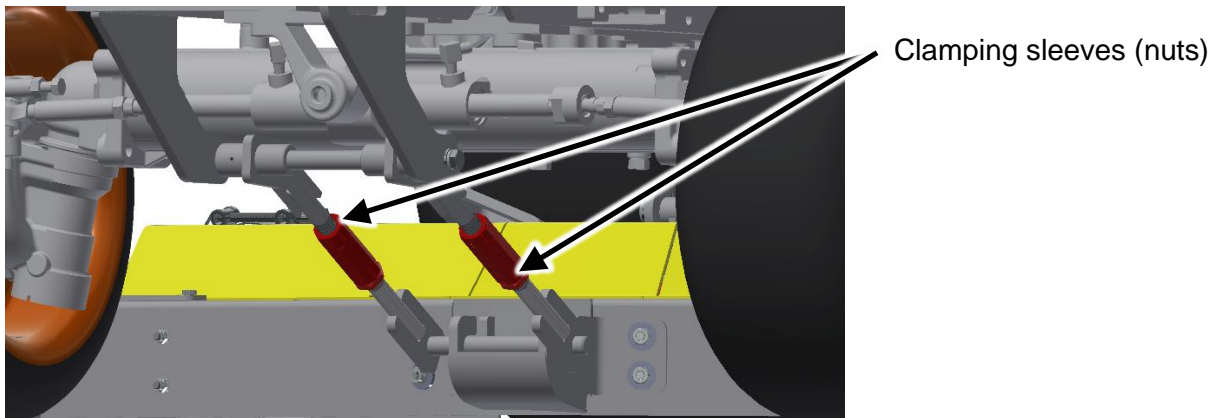

Figure 32 : Adjusting the mower on the front bracket
- Adjusting the inclination: using the clamping sleeves of the front bracket. Refer to Figure 32